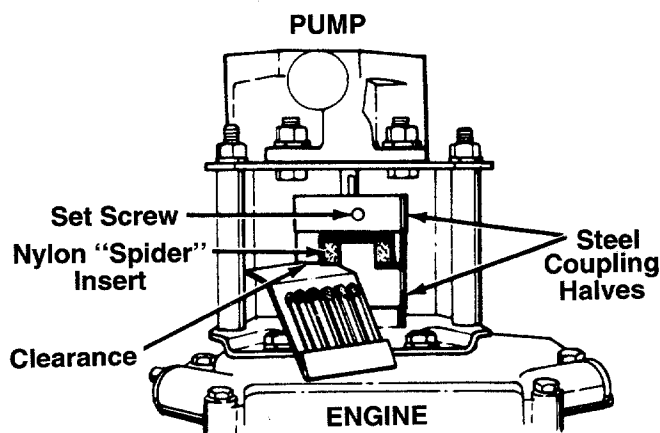

FIGURE 18.—Bottom View
11. Set .010 to .060 inch clearance between the nylon "spider" and the engine coupling half by sliding a matchbook cover between the nylon "spider" and the engine coupling half and moving pump coupling half as needed. Secure pump coupling half with set screw. See figure 18.